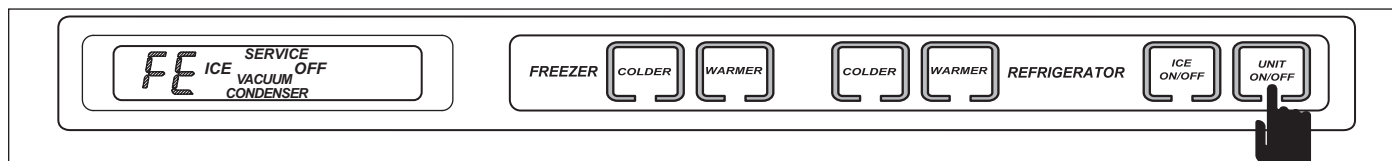

Figure 3-32. Press UNIT ON/OFF Key to Display Location of Thermistor
- Press the UNIT ON/OFF key at this time to display the location of the thermistor being read, "FE" represents the freezer evaporator (See Figure 3-32).